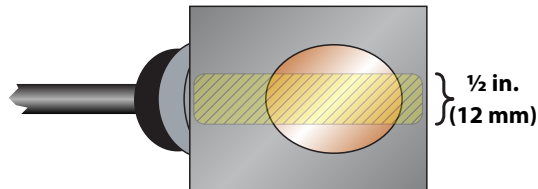

Figure 11: Application of couplant
For DTTR, DTTN, DTTL and DTTH transducers, place a single bead of couplant, approximately 1/2 inch (12 mm) thick, on the flat face of the transducer. See *Figure 11*. Couplant is provided with the transducers. Generally, a silicone-based grease is used as an acoustic couplant, but any good quality grease-like substance that is rated to not flow at the operating temperature of the pipe is acceptable. For pipe surface temperature over 130° F (55° C), use high temperature acoustic couplant such as Krytox® LVP (P.N. D002-2011-012). For installations that must be silicone free, use Molykote G-N couplant (P.N. D002-2011-009).
- For DTTR, DTTN, DTTL and DTTT transducers, place a single bead of couplant, approximately 1/2 inch (12 mm) thick, on the flat face of the transducer. See Figure 11. Generally, a silicone-based grease is used as an acoustic couplant, but any good quality grease-like substance that is rated to not flow at the operating temperature of the pipe is acceptable.
See *Figure 11 on page 20*.